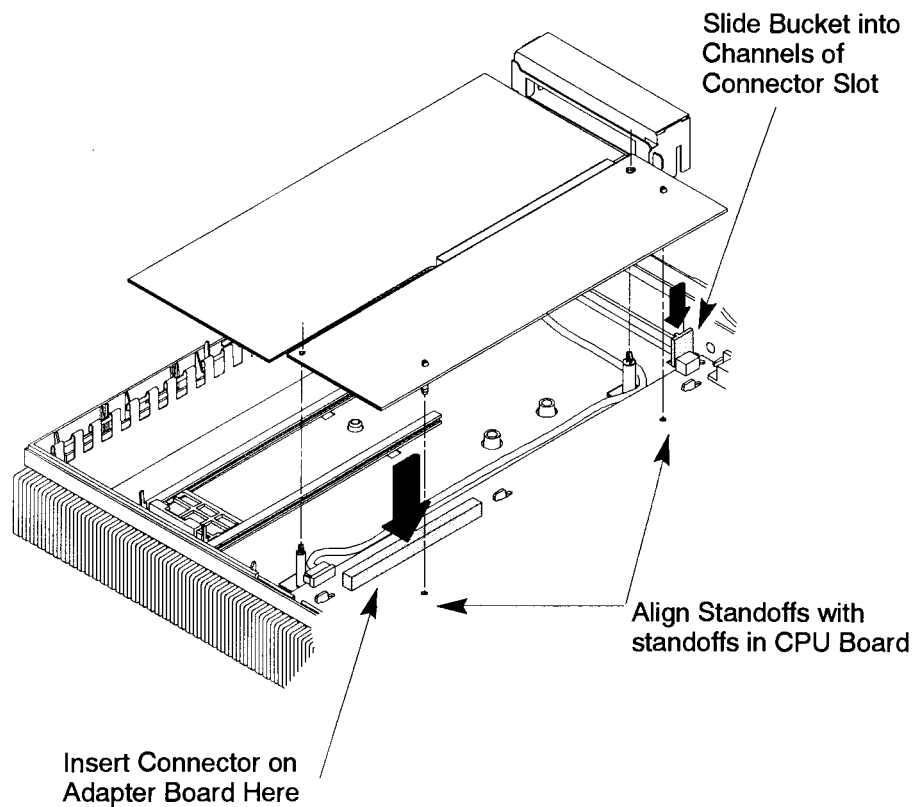

Figure B-52. Inserting the EISA Assembly into the System Unit
8. Slide the connector bucket, which you attached to the EISA board, *partway* into the channels of the connector slot on the rear of the system unit (see Figure B-52). Align the connector on the adapter board with the connector on the processor board, and carefully press the two connectors together. Ensure that the standoffs are aligned with the standoffs in the CPU board. Press on both the connector bucket and the adapter board to secure the assembly to the system unit.